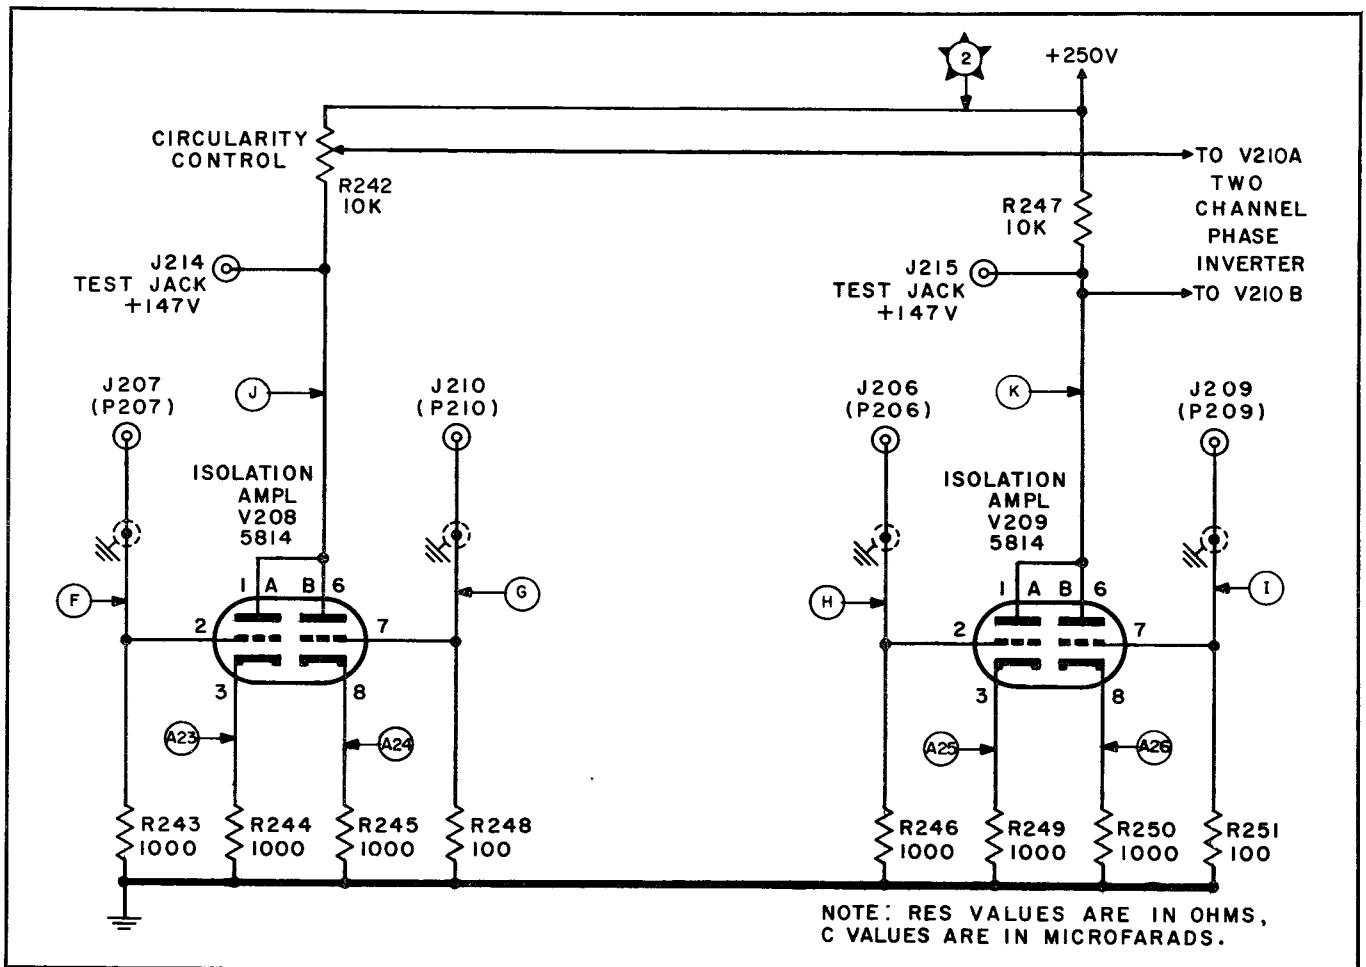

Figure 4-10. Azimuth Indicator Partial Schematic, Isolation Amplifiers
- e. Isolation Amplifiers (Figure 4-10).
4-38. ISOLATION AMPLIFIERS. (Figure 4-10.)
4-46. From the arm of R242, the variable plate load resistor for V208, and from the plates of V209, (figure 4-10) the vertical and horizontal voltages are fed respectively through coupling capacitors C223 and C222 to the grids of V210A and V210B. R252 and R257 provide the grid returns. R253 and R254 are the plate load resistors, while R255 and R256 are the cathode load resistors of the two phase-inverter circuits. The push-pull outputs of the two phase-inverter channels are from the plates and the cathodes.